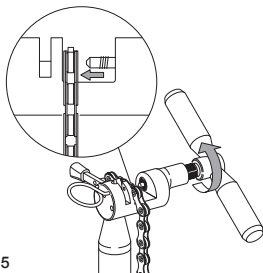

Fig.5
- tighten the tool until the small pin emerges completely from the hole in the link (Fig. 5).